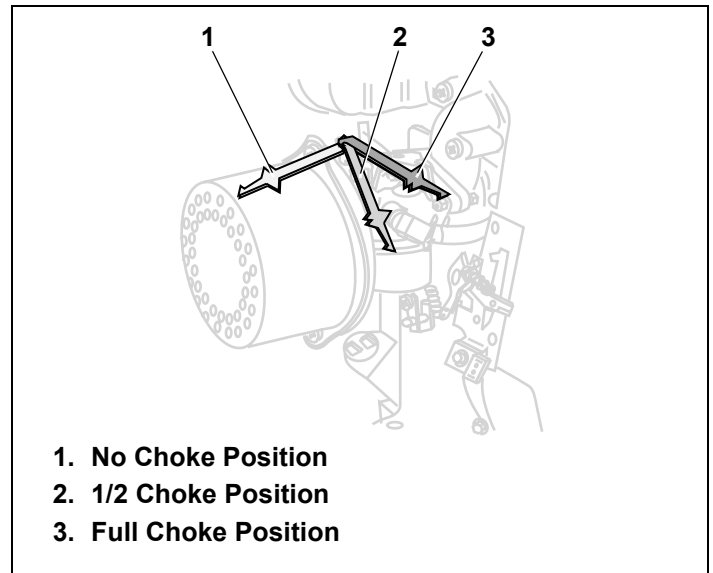

Figure 17. Choke Control Positions
3. Move Equipment Control (see equipment manufacturer's instructions) or Engine Throttle Control to "FAST" position or "HIGH" position and set Choke Control to "FULL" position. See Figures 17, 19, and 20.
If restarting a warm engine after a short shutdown, move Equipment Control to "FAST" position and Choke Control to "NO CHOKE" position. See Figures 17, 19 and 20.
- b. Momentarily move Choke Control to "1/2 CHOKE" position until engine runs smoothly. See Figures 17.
- a. *Momentarily move Choke Control back to "FULL CHOKE" position. See Figure 17.*